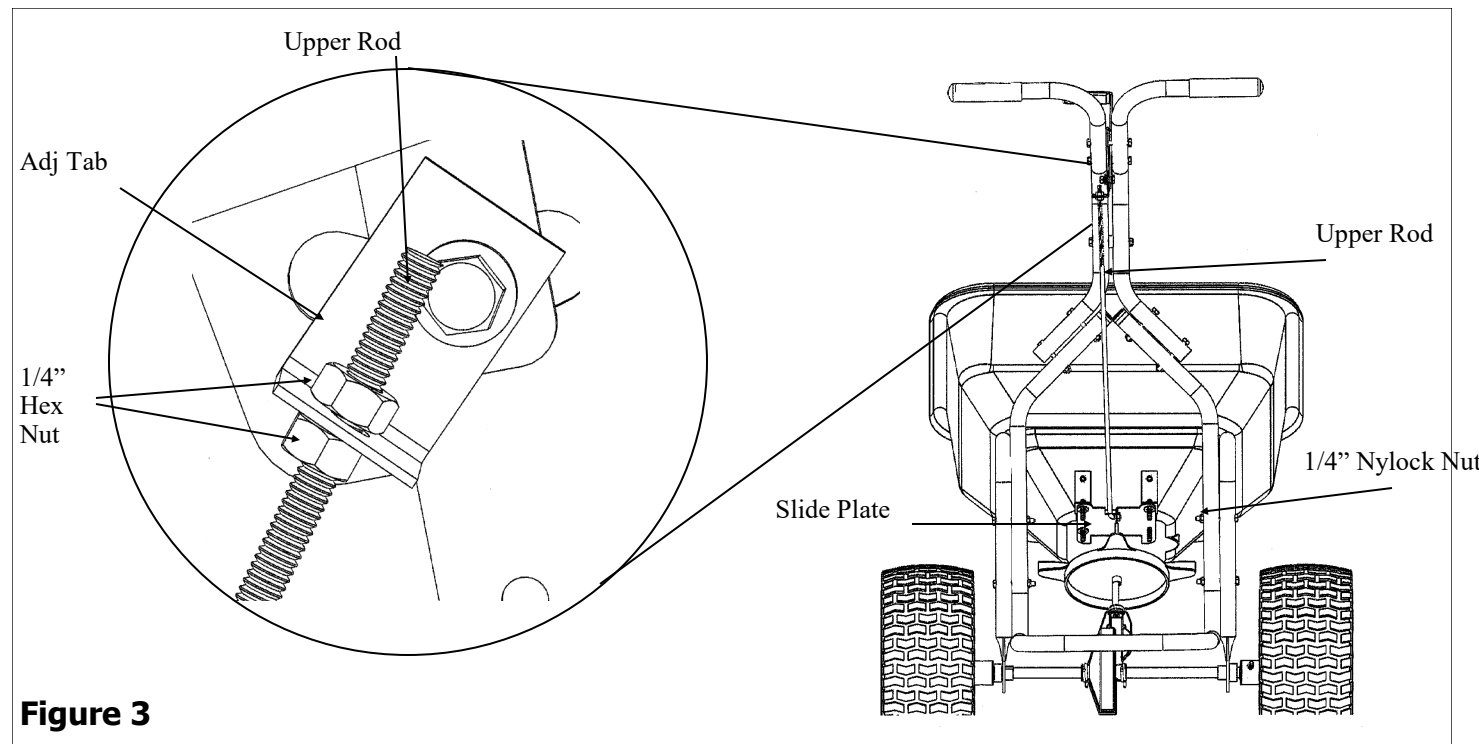

Figure 3
3. Secure the Upper Rod to the Adj Tab by putting one 1/4" Hex Nut onto Upper Rod then putting upper Rod through Adj Tab and secure with another 1/4" Hex Nut. Secure other end of Upper Rod to Slide Plate using a 1/4" Nylock Nut. See Figure 3.